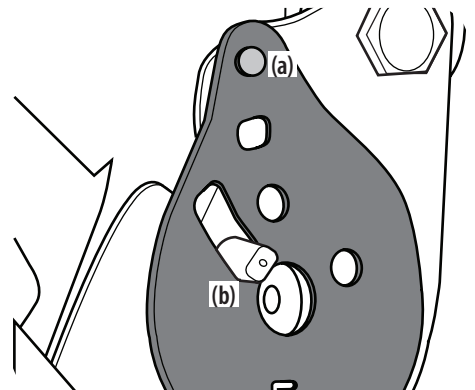

Figure 11
6. Tilt the seat forward into the full forward position. Replace the recliner plate with the clinch-stud (a) and the recliner pin (b) passing through the recliner plate in the locations shown in Figure 11.